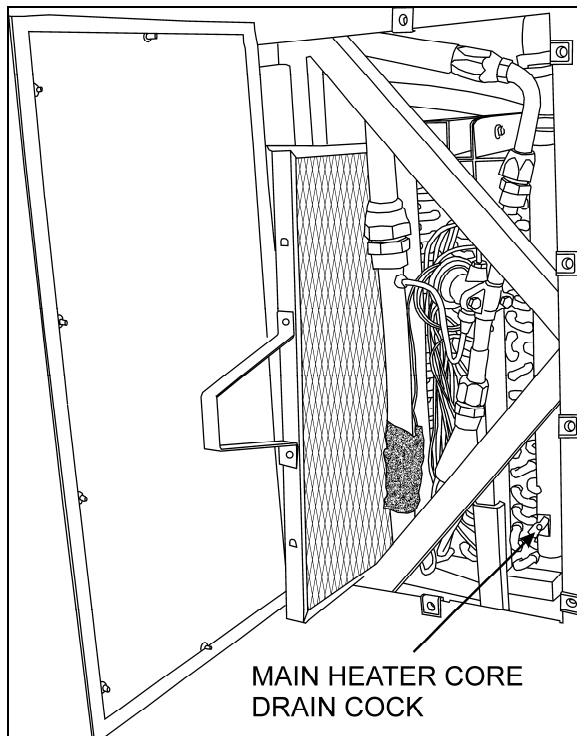

FIGURE 44: EVAPORATOR COMPARTMENT
4. Open drain cock in bottom of heater core, you can unfasten a hose connection on top of heater core (Fig.44) in order to allow air to enter while draining.